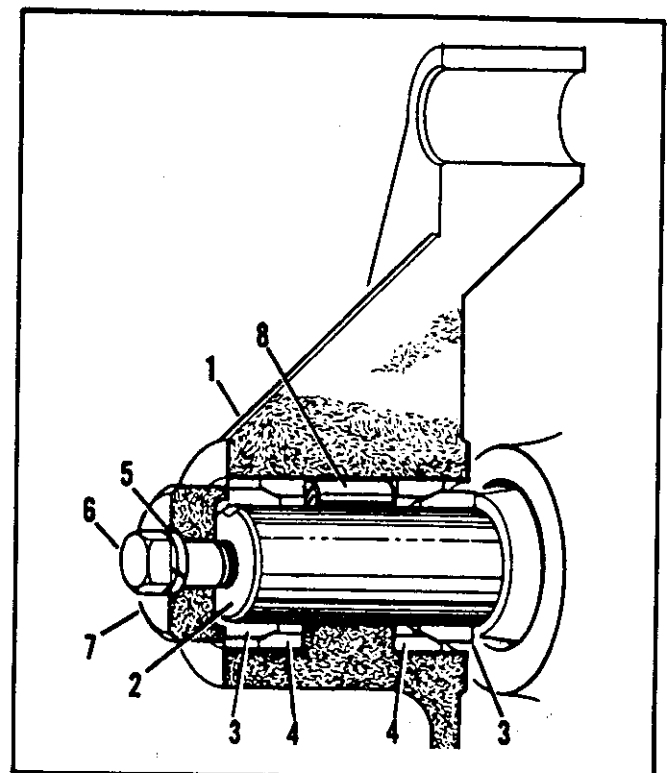

Figure 3-5. Gripspring installation
c. Gripsprings: During reassembly of the compressor, it is essential that the gripsprings (70, Fig. 5-18) be installed in the correct sequence. Improper installation of the gripsprings will result in slippage between the shaft and the coupling and cause excessive wear. Refer to Figure 3-5 and assemble the gripsprings as follows:
(1) Install smaller gripspring (3) on shaft (2) with beveled edge out.
(2) Position larger gripspring (4) over gripspring (3) so that the beveled edges meet.
(3) Install key (8) on shaft. Slide coupling (1) on shaft and over key and gripsprings until it seats.
(4) Position second larger gripspring (4) in coupling with beveled edge facing outward.
(5) Install second smaller gripspring (3) on shaft. Be sure beveled edges of gripsprings (3 and 4) match.
(6) Position gripspring retainer (7) and secure with washer (5) and bolt (6).